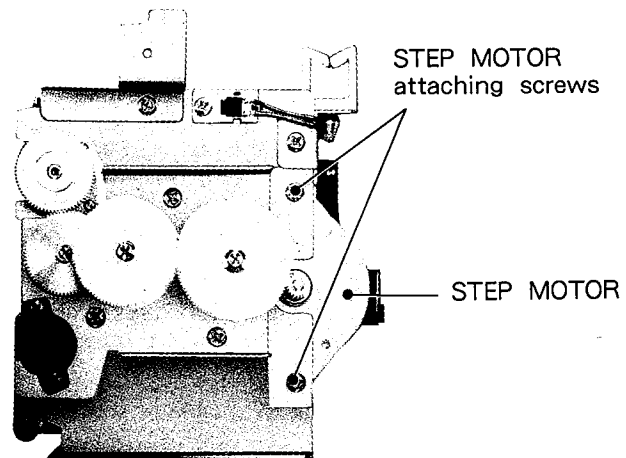

Fig. 10
2. Remove the STEP MOTOR attaching screws. (Fig. 10)